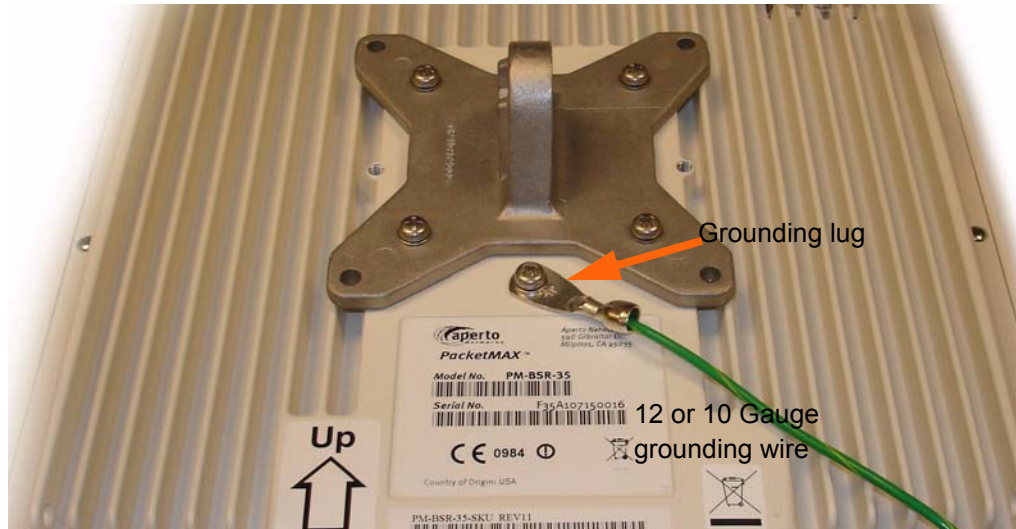

Figure 4-2 Grounding lug on 3.3 and 3.5 GHz radio attached to base bracket
- B. Attach the grounding lug to the radio, as shown in Figure 4-2 (PM-BSR-33 and PM-BSR-35).
NOTE: The “UP” sign in the BSR (Figure 4-2) indicates proper vertical orientation that would allow moisture to escape the unit.